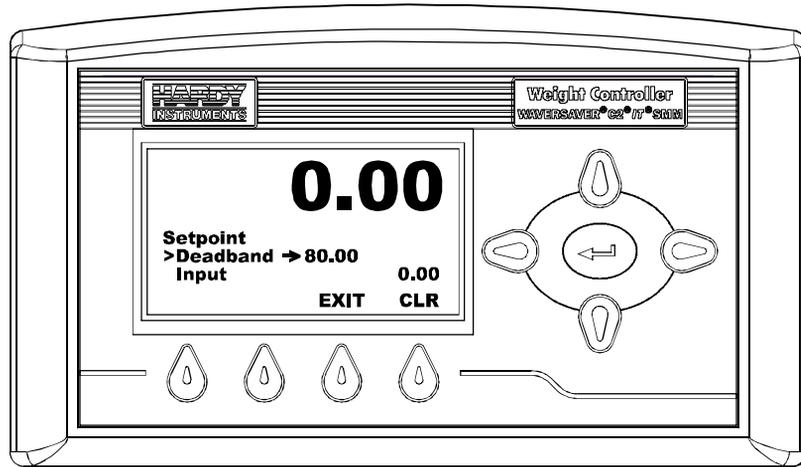

FIG. 62 SET POINT MENU/SELECTING DEADBAND
- Step 21. Press the down arrow button until the cursor is in front of “Deadband” (See Fig. 62) The present deadband value is displayed to the right of the arrow.